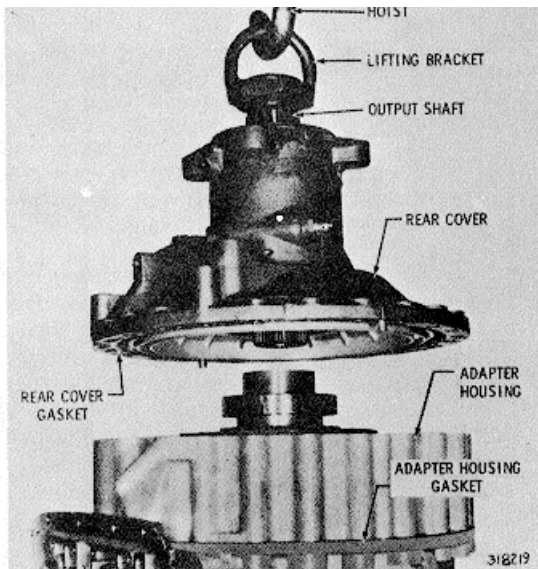

Fig. 7-20. Installing rear housing
(2) Place the rear cover gasket onto the rear cover. Retain the gasket with oil soluble grease (fig. 7-20). Be sure the holes in the gasket are aligned with those in the adapter housing.
(3) Attach a lifting bracket to the output shaft (fig. 7-20). Using a hoist, guide the cover onto the adapter housing. Since the two dowel pins in the cover are of different size, simplification of installation is achieved.